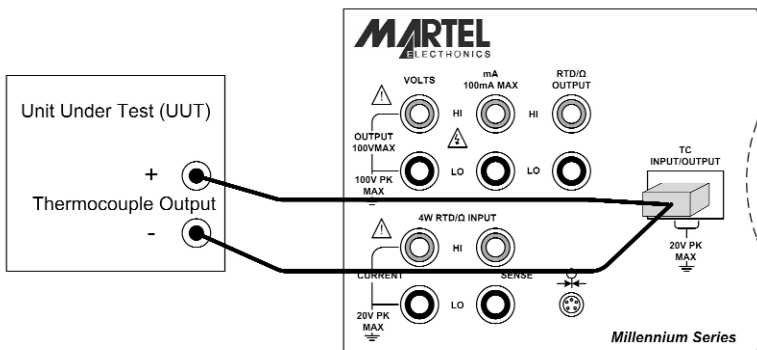

Figure 14 - Thermocouple Input Connection
- e) Connect the unit under test to the thermocouple terminals of the 3001 using a standard T/C miniplug as shown in figure 14. One pin is wider than the other; do not attempt to force the plug in the wrong polarization. The T/C wire used for the connection must match the thermocouple type selected for proper cold junction compensation. If the 3001 and the T/C miniplug are at different temperatures, wait at least 3 minutes for the miniplug and terminals to stabilize to the same temperature.